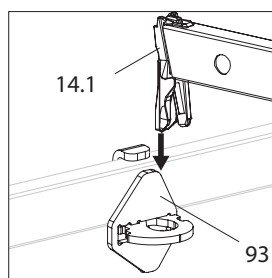

Fig. A11.06i
4. Hook the horizontal ledger (14a) from above into the Ledger-to-Ledger Coupler UHA (93). (Fig. A11.06i)